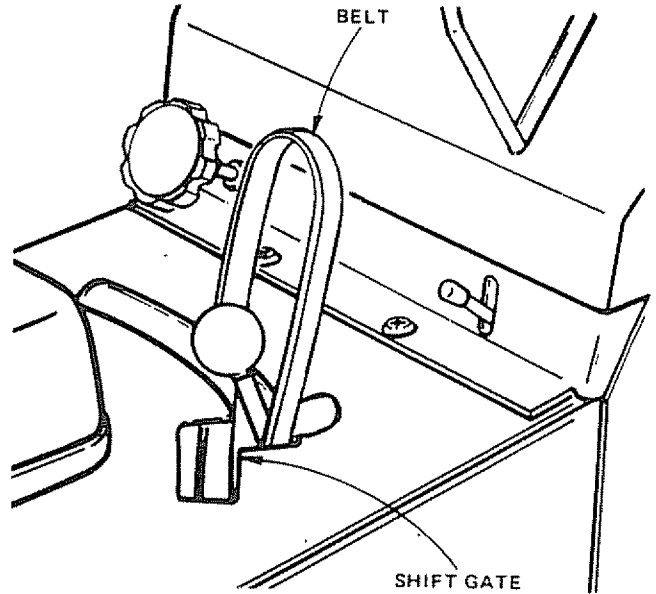

FIGURE 32
- h. Pull belt out through shift gate to remove from tractor (Fig. 32).